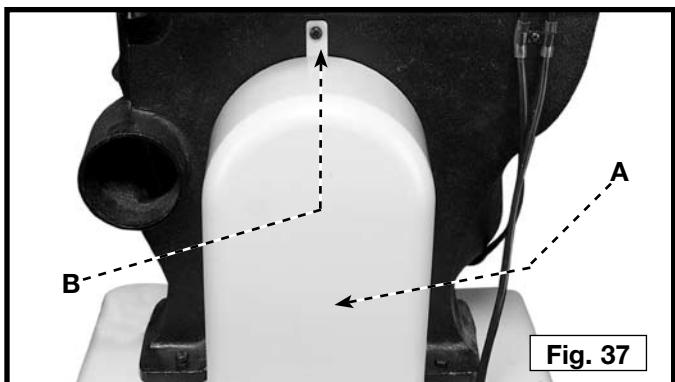

Fig. 37
1. Remove the pulley guard (A) Fig. 37 by removing screw (B).